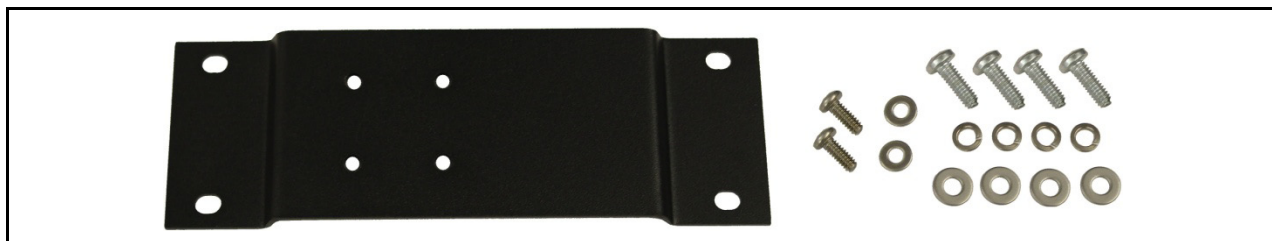

Figure 8-15: HHC-731 Interface Cable Mounting Bracket Kit KT-018752-001
HHC-731 Interface Cable Mounting Bracket Kit KT-018752-001 is shown in Figure 8-15. This kit includes Bracket FM-018681-001 and mounting hardware, which secure the HHC-731 Interface Cable to a mounting surface. In Table 4-7 on page 31, the cable is item 1 and the bracket is a part of the item 2 kit.